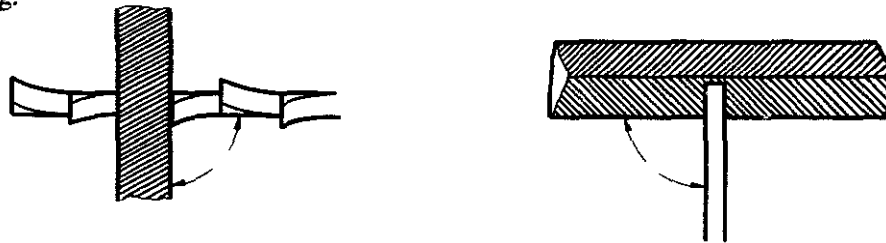

Fig. 7-26
10. On the two views of ripsaw teeth, figure 7-26, a file is shown in the correct position for reshaping the teeth. Indicate the angles of the file with the blade and the direction of filing.